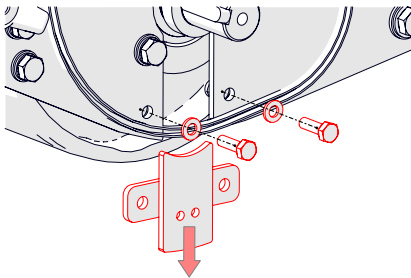

Fig. 25G - Remove the RH cover plate.
10. Remove the two hex screws below the pulley [10 mm spanner], attaching the metal cover plate (Fig. 25G).